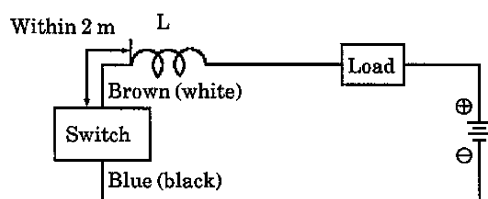

Fig. 9 ● Choke coil
- When the lead wire length is 10 m or more, be sure to provide the protection circuit shown in Figs. 9 and 10 (for K2) and Fig. 11 (for K3).